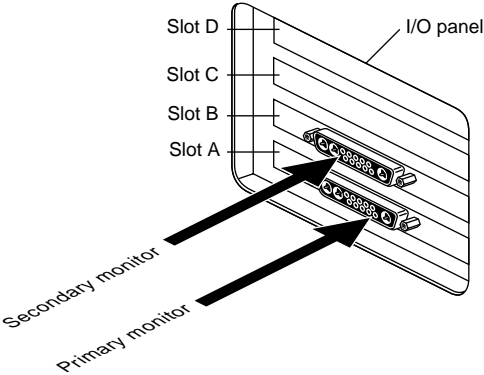

Figure 5-13 Connecting the Monitor Cables to the Chassis in an Indigo² XL/XL Stacked Configuration
- Connect one end of the each monitor cable to the connector on the back of each monitor, as shown in Figure 5-13. Screw in the thumbscrews on both sides of the connector.